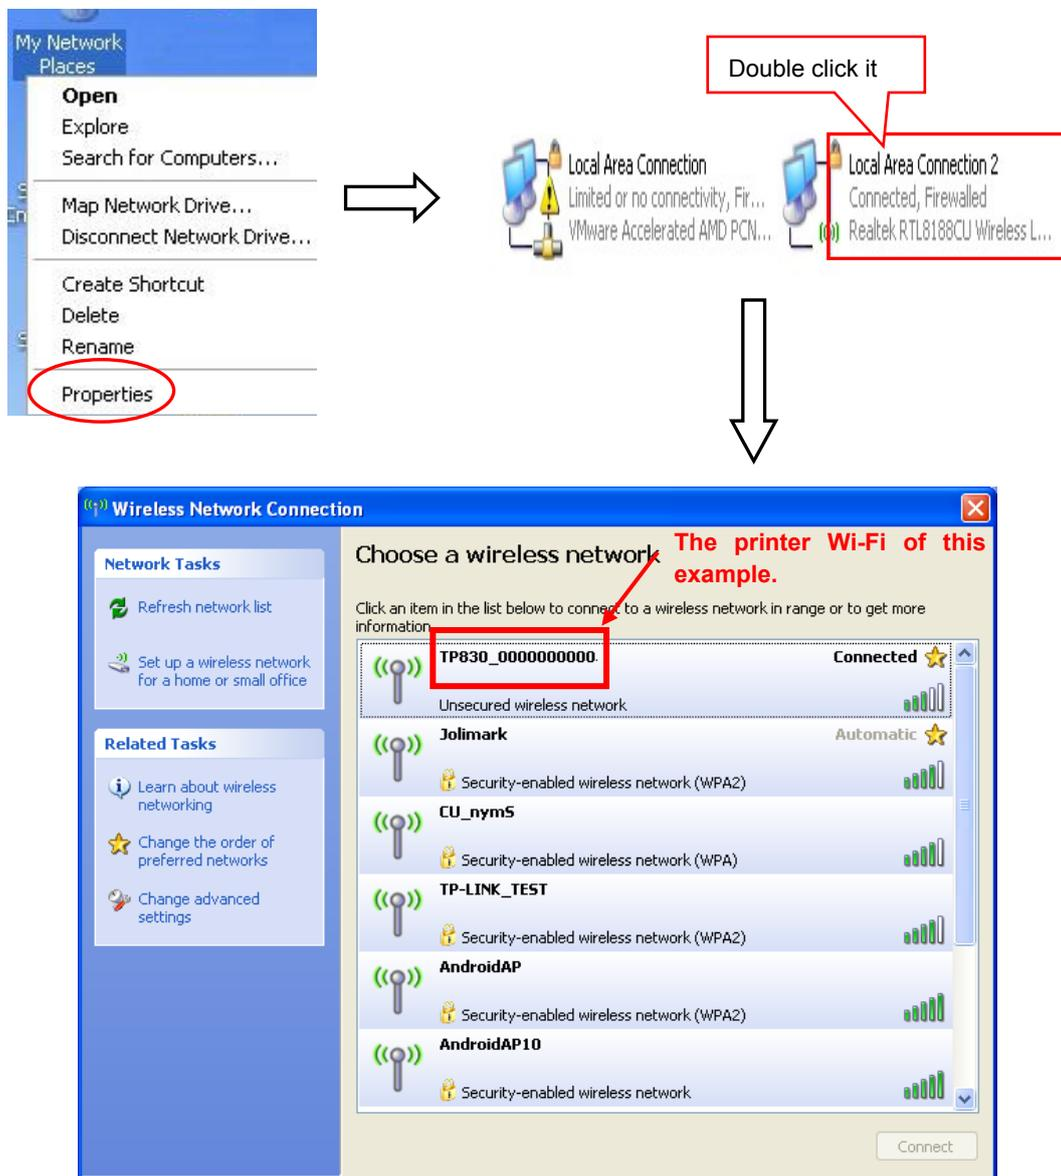

Figure 1
2. Right click “My Network Places”, and then click “Properties” to find the “Local Area Connection 2”. Double click it and the window of “Wireless Network Connection” pops up, select and double click the corresponding printer Wi-Fi name. The printer Wi-Fi default name is composed of “the printer model+10 SN numbers” (as shown in Figure 1)